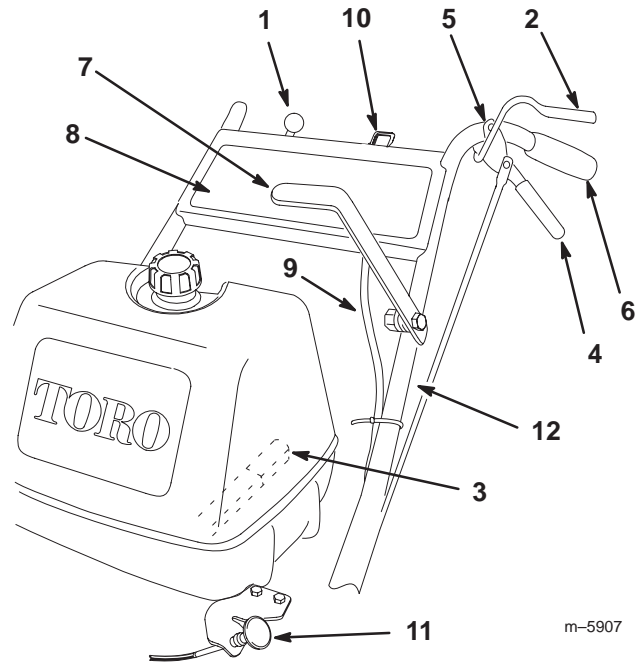

Figure 14
Become familiar with all the controls (Fig. 14) before you start the engine and operate the machine.
1. Move the throttle lever to the **Slow** position (Fig. 14).
1. Squeeze the operator presence control (OPC) levers against the handles (Fig. 14).
2. Push the blade control (PTO) lever firmly forward until it latches over the center (Fig. 14).
Pull the blade control (PTO) lever **fully** rearward (Fig. 14).